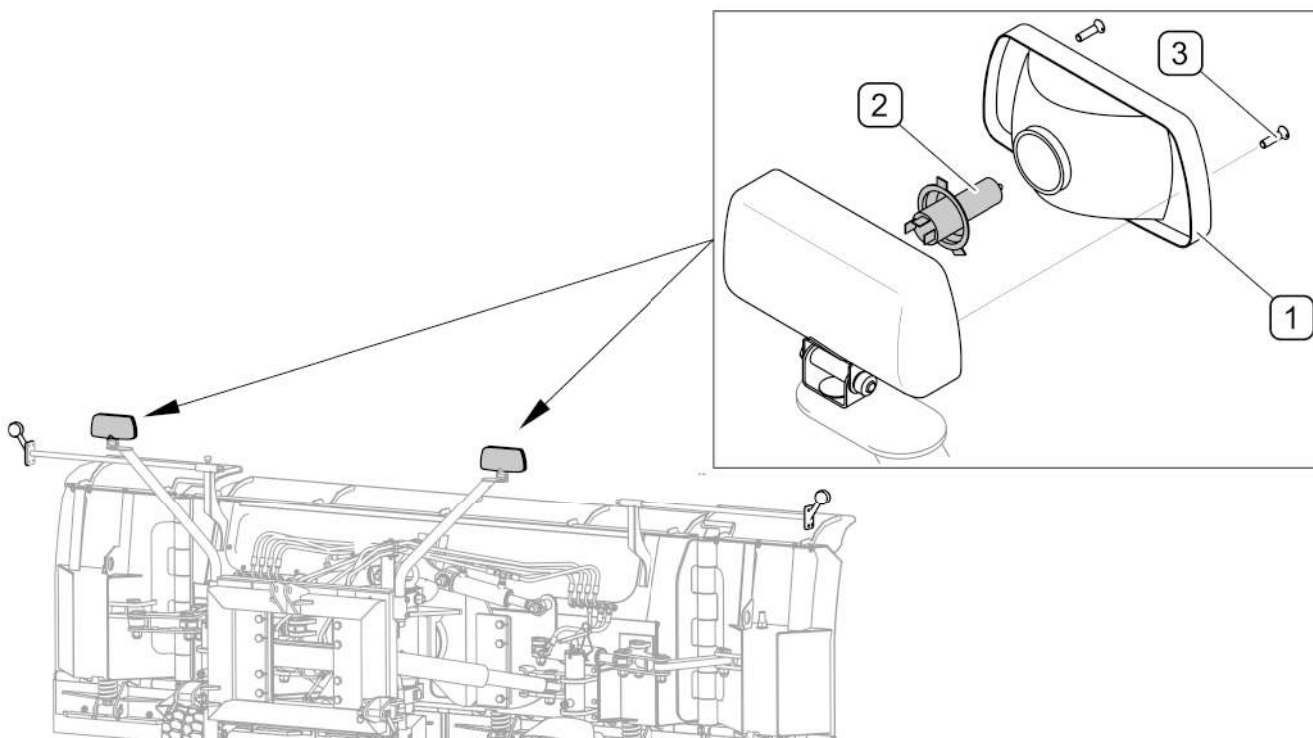

FIG. 5.5 Changing bulbs
(1) - power lead; (2) - UNIVAL 15A fuse; (3) - fuse holder; (4) - protective cover
There is a UNIVAL 15A fuse (2) on the power lead of the scraper – blade's electrical system (FIG. 5.5) that is connected to the carrying vehicle's electrical system. To replace the fuse, remove protective cover (4) and take the fuse (2) out from holder (3).